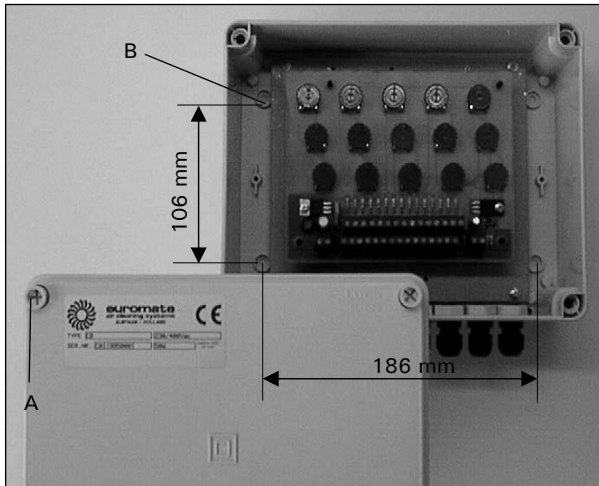

fig. 3
- Loosen the mounting screws and remove the cover (see fig. 3).
- Attach the housing using four screws against the wall. For this purpose mounting holes (B) have been provided in the housing (see fig. 3).